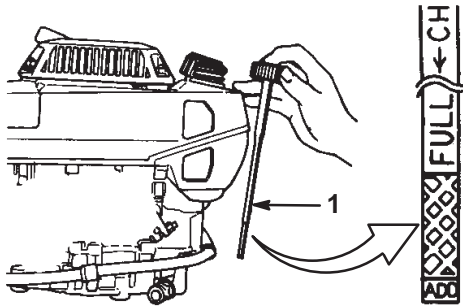

Figure 5
Before each use, ensure that the oil level is between the **Add** and **Full** marks on the dipstick (Fig. 5).
2. Clean around the dipstick (Fig. 5).
6. Read the oil level on the dipstick (Fig. 5).